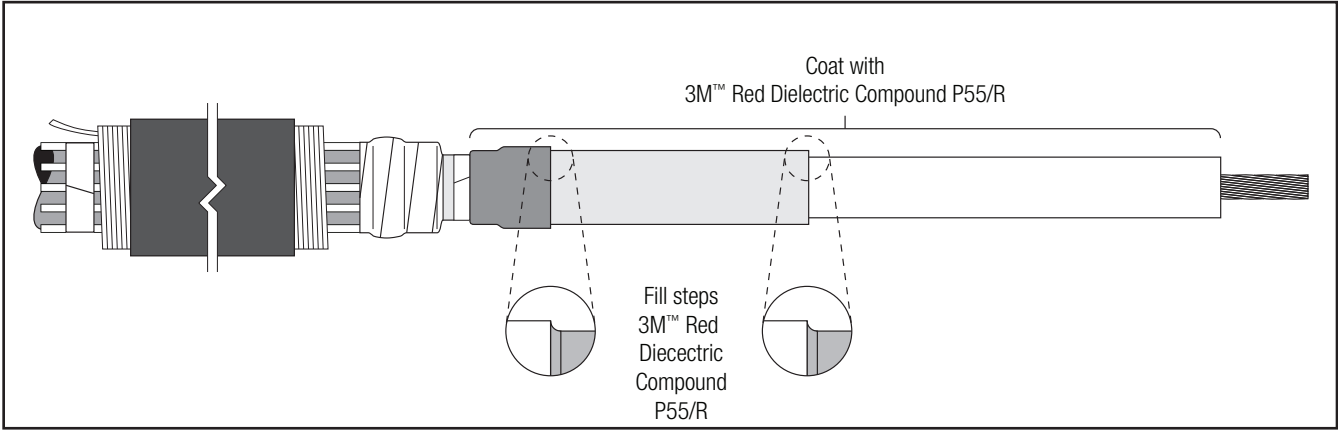

Figure 9
2.9 Apply 2 tubes 3M™ Red Dielectric Compound P55/R to the exposed insulation and stress control adapter. Fill the top edge of the stress control tube with the 3M™ Red Dielectric Compound P55/R. (Figure 9)